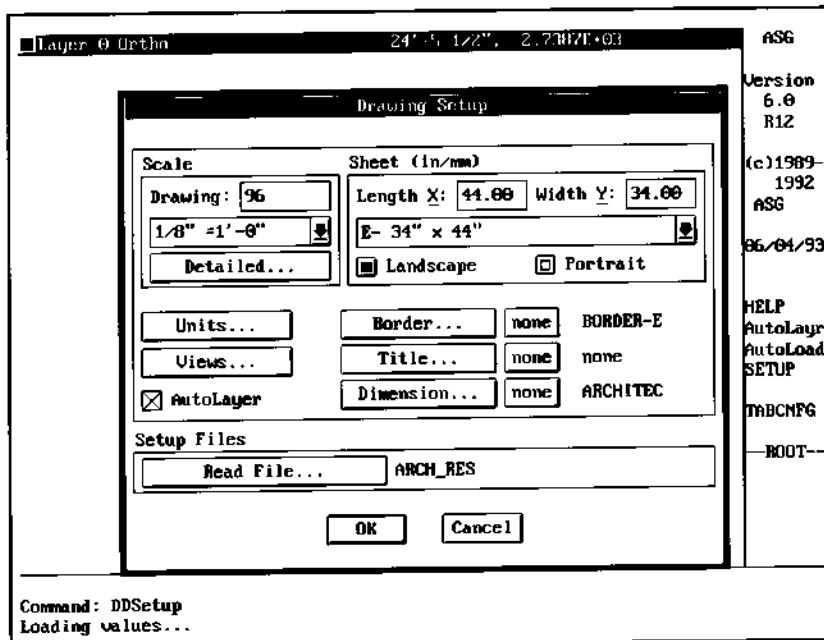
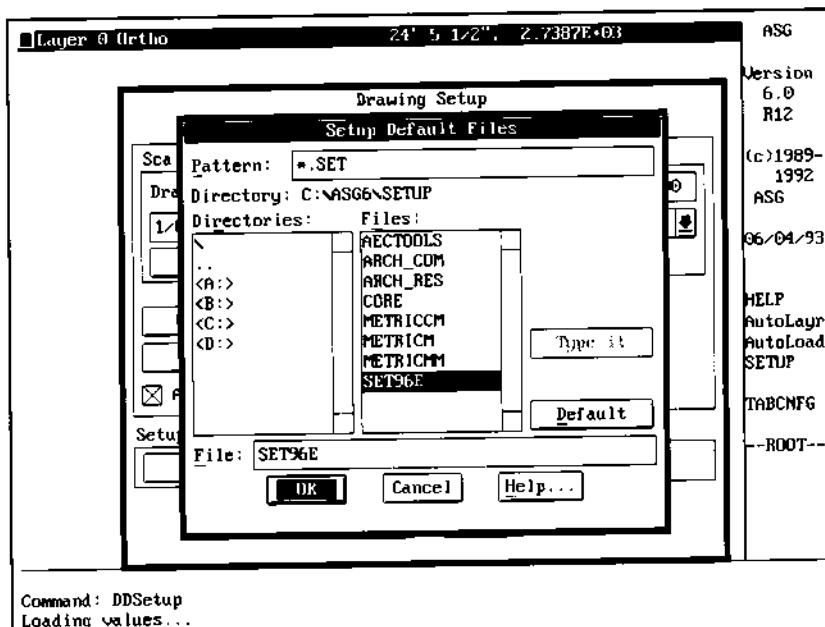
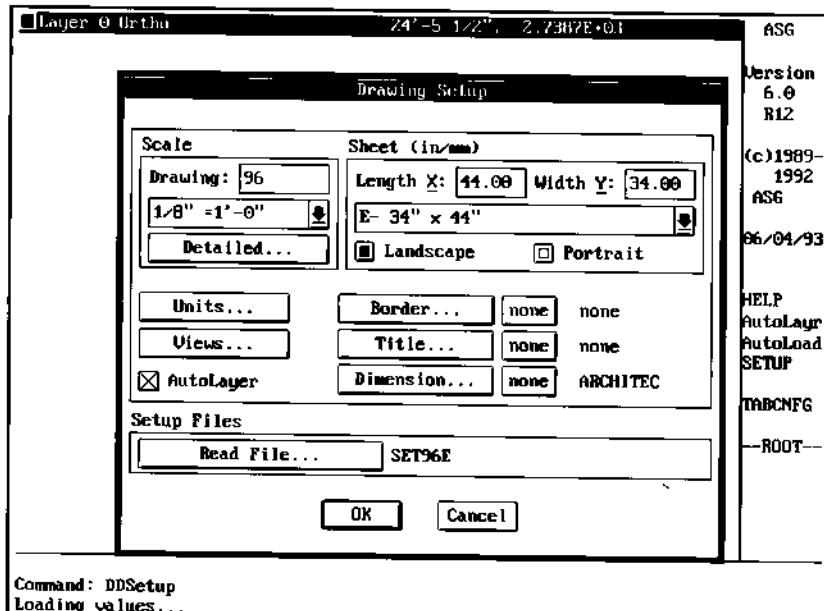

Figure 11.
Figure 12.
Figure 13.
15. The Drawing Setup dialog box should appear with the values for a 1/8"=1'-0" scale drawing, an E-size sheet, and an X in the AutoLayer pick box on as shown in Figure 11. If not already activated, toggle the pick box with your pointing device to place an X in the AutoLayer check box.
4. To recall the saved default for a new drawing with the same setup values, open the Drawing Setup subdialog box and select READ FILE in the Setup Files Section box as previously shown in Figure 11. The Setup Default Files subdialog box opens, as shown in Figure 12, to view saved default files. Double clicking the file name closes the subdialog box to re-display the Drawing Setup dialog box with the Read Default name as shown in Figure 13. Pick OK again to save the new values.